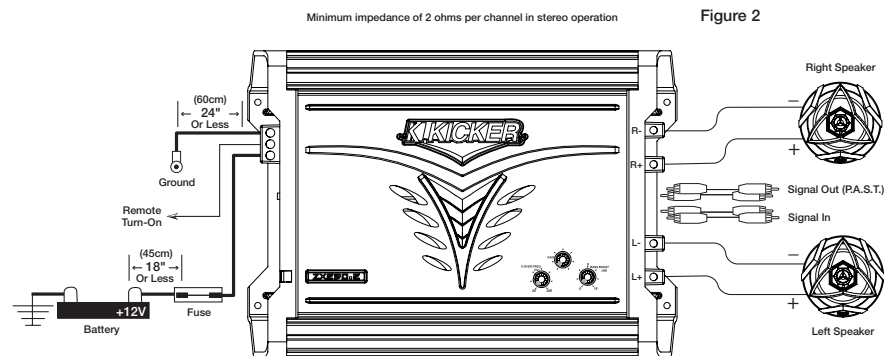

Figure 2
**Two Channel Operation (Stereo)** These ZX amplifiers are capable of operating into a minimum impedance of 2 ohms per channel in stereo operation. See Figure 2.